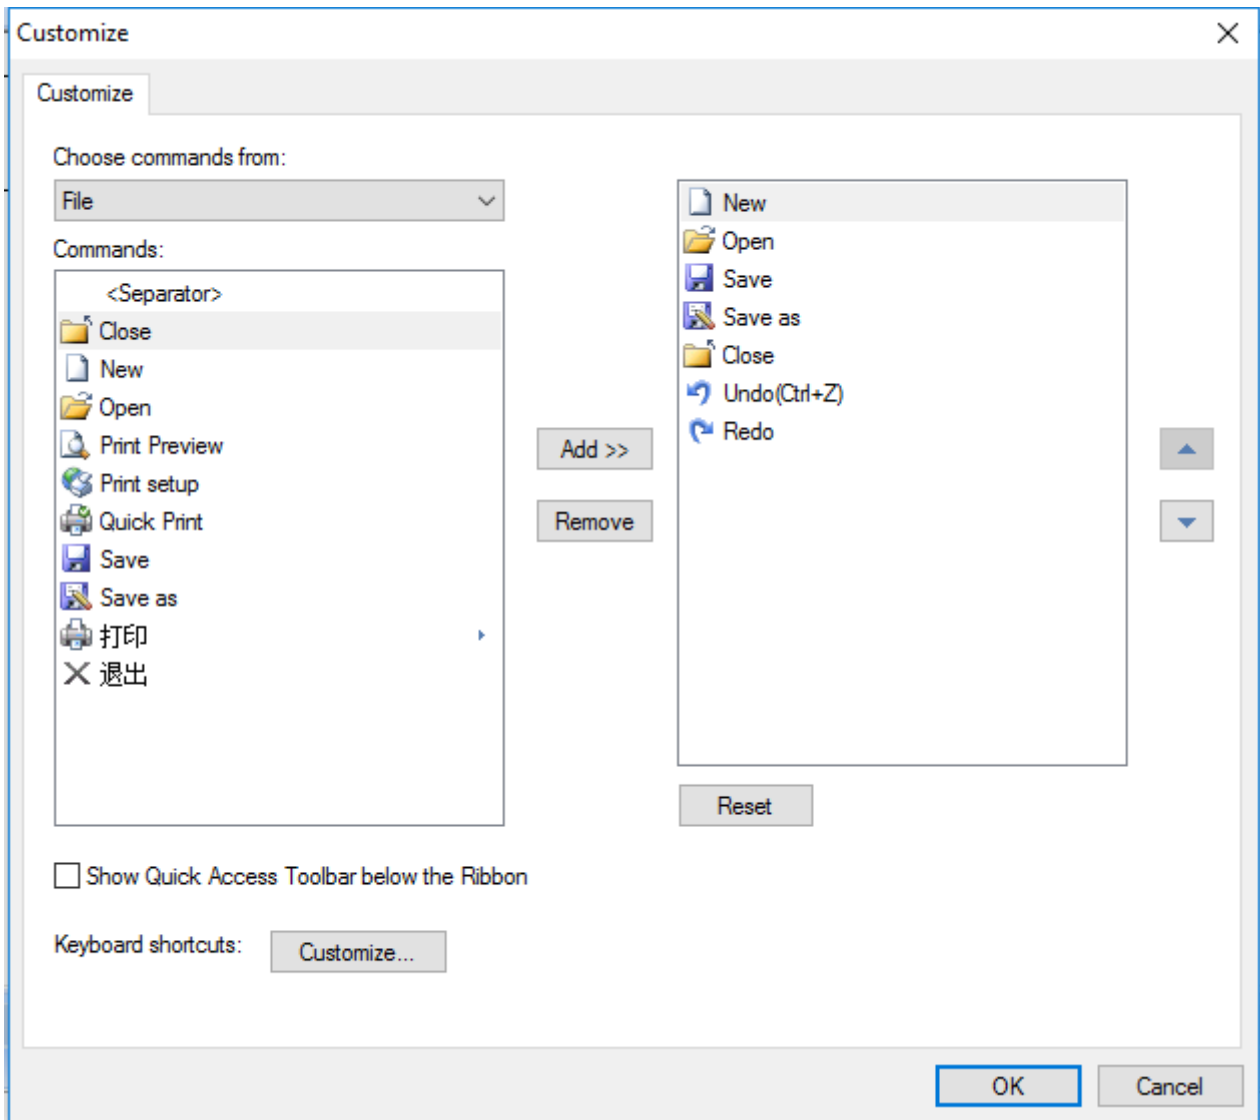

Figure 2-8
- 3) After completing Step 2, then open the [custom] window, as Figure 2-8 shows.